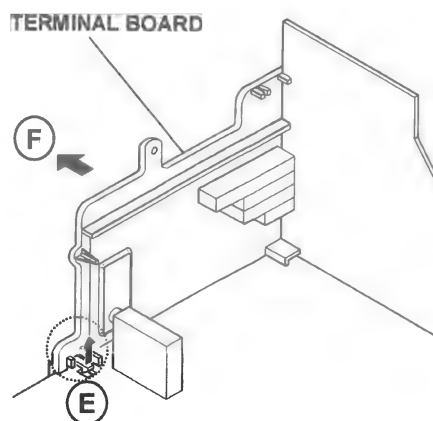

Fig. 1
- 2. After removing the claw marked (E) in the direction of arrow mark as shown in Fig.1.
- 3. When you pull out the TERMINAL BOARD in the direction of arrow marked (F) as shown in Fig.1, it can be removed.
(4) System constant check and setting <ol style="list-style-type: none"> <li>1) Press the SLEEP TIMER key and set SLEEP TIMER for 「0 min」.</li> <li>2) Before disappear the display of SLEEP TIMER settings, simultaneously press the DISPLAY key and VIDEO STATUS key of the remote control unit.</li> <li>3) The SERVICE MENU screen of Fig.1 is displayed.</li> <li>4) While the SERVICE MENU is displayed, again simultaneously press the DISPLAY and VIDEO STATUS keys to display the SYSTEM CONSTANT screen in Fig.2.</li> <li>5) Refer to the SYSTEM CONSTANT table and check the setting items. Where these differ, select the setting item with the MENU UP/DOWN key and adjust the setting with the MENU LEFT/RIGHT keys. (The letters of the selected item are displayed in yellow.)</li> <li>6) After adjusting, release the MENU LEFT/RIGHT key to store the setting value.</li> <li>7) Press the EXIT key twice to return the normal screen.</li> </ol>	<div style="text-align: center;">  <p>Fig.1</p> </div> <div style="text-align: center;">  <p>Fig.2</p> </div>
(7) SERVICE MENU setting Verify what to set in the SERVICE MENU, and set whatever is necessary. (Fig.1) Refer to the SERVICE ADJUSTMENT for setting.